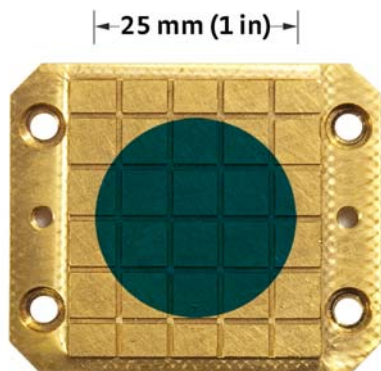

FIGURE 4-1 Probe area indicated with dark circle
5. Using the x and y-micrometers to adjust position, move the probe (it should travel smoothly) until the probe tip reaches all sides of the specified 25 mm (1 in) diameter probe area (see FIGURE 4-1 for probe area).
Each probe assembly includes a micro-manipulated translation stage with three axes of motion that are described in this section. All six available probes can be positioned in a 25 mm (1 in) diameter probe area in the center of the sample holder (FIGURE 4-1). The Model CRX-6.5K can accommodate 32 mm (1.25) and 51 mm (2 in) sample holders, but the probe area is the same for both sizes. Individual probes can land outside the probe area in line with the probe arm. Due to translation limitations, individual probes cannot be landed on either side of the defined probe area. The sample should be positioned and aligned on the sample holder to take best advantage of the probe area (see section 4.3.3.1 for alignment).
Whole, 25 mm (1 in), wafers must be centered on the sample holder in order to fit onto the sample stage, to take advantage of the probe area (see FIGURE 4-1 for an image of the probe area). Smaller samples should also be centered to allow easy access by all probes.